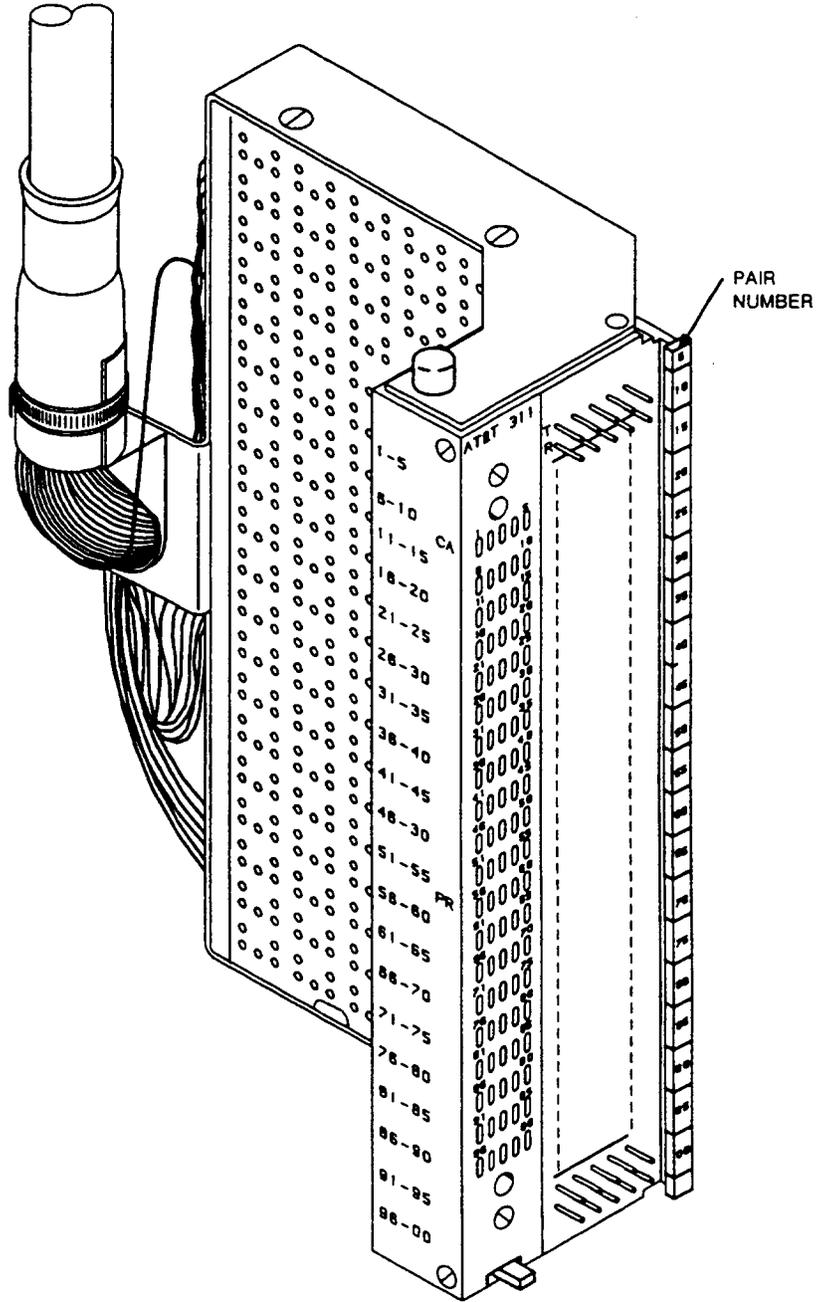

Figure 7. Marking Cable and Pair Numbers
**3.10** Use the B or W transfer stenciling kit, as described in AT&T 081-860-105, for marking the cable and pair numbers. The **MERLIN EXPRESS**® lettering machine can also be used for marking the cable and pair numbers. The 311-type connector is marked in a manner similar to that shown in Figure 7.